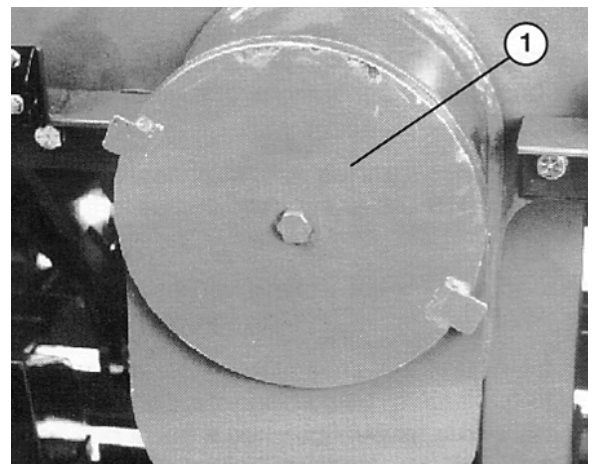

Figure 3
1. Remove cover from pick-off gear case (Fig. 3).